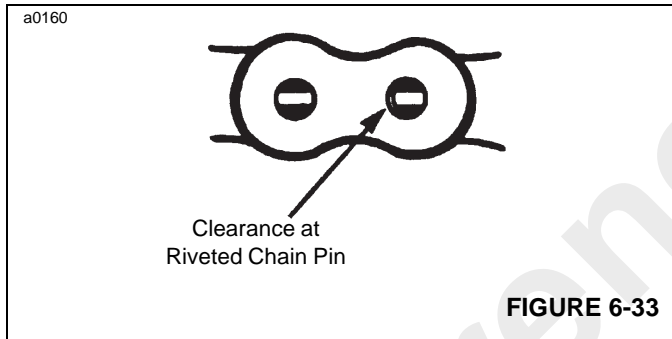

FIGURE 6-33
- c. Looseness between the riveted ends of a chain pin and the outer link plates. If a pin is broken, the normal rigid riveting may loosen, leaving a visible clearance around the exposed ends of the pin (Figure 6-33).